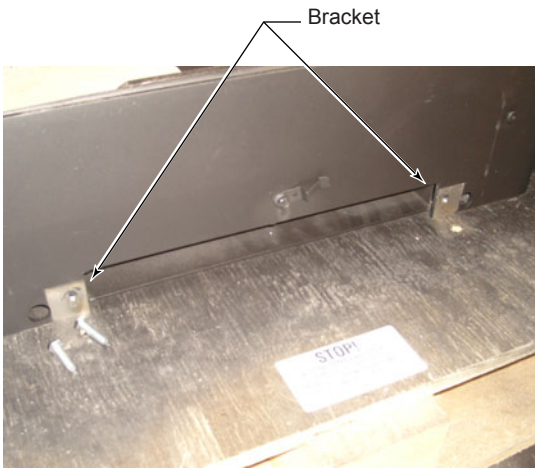

Figure 6
- Remove the two brackets on the front of the insert by removing the four bolts (save the two bolts removed from the front of the insert). *Figure 6*